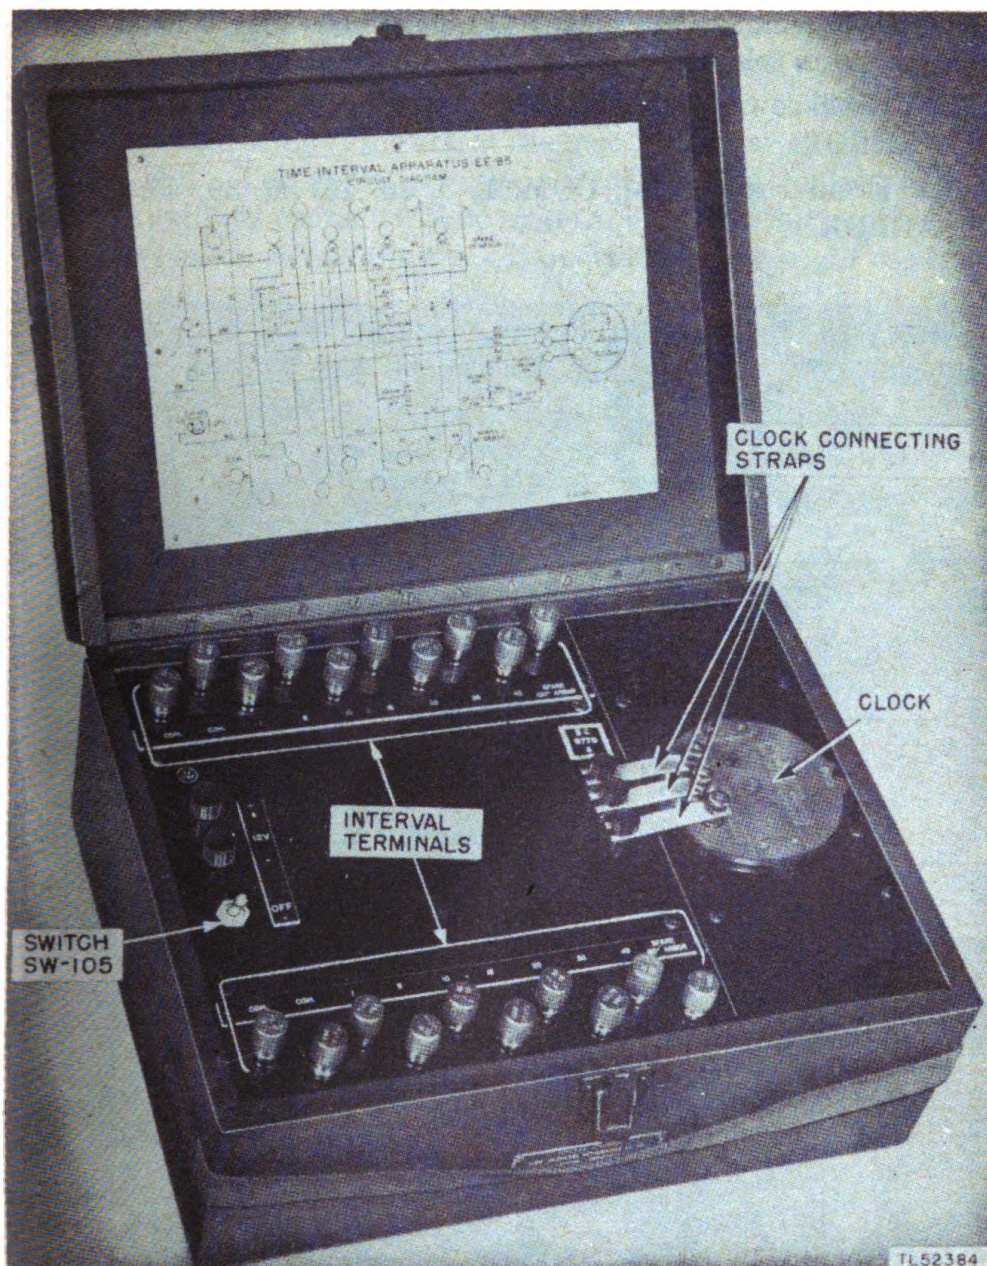

Figure 4. Time Interval Apparatus EE-85—cover open.
b. **SMALL PANEL** (fig. 4). The small panel is held in place by six screws. A bakelite cylinder in which the clock is placed, is fitted into the center of the panel. The clock is held in place with two screws placed diametrically on the clock rim. The clock is equipped with three terminals for connection to the interval-producing unit.
c. **LARGE PANEL** (fig. 4). The large panel serves as a terminal board and a mounting for the interval-producing mechanism. The panel is held in place by four mounting screws placed along the top and bottom of the panel. The board is equipped as follows: